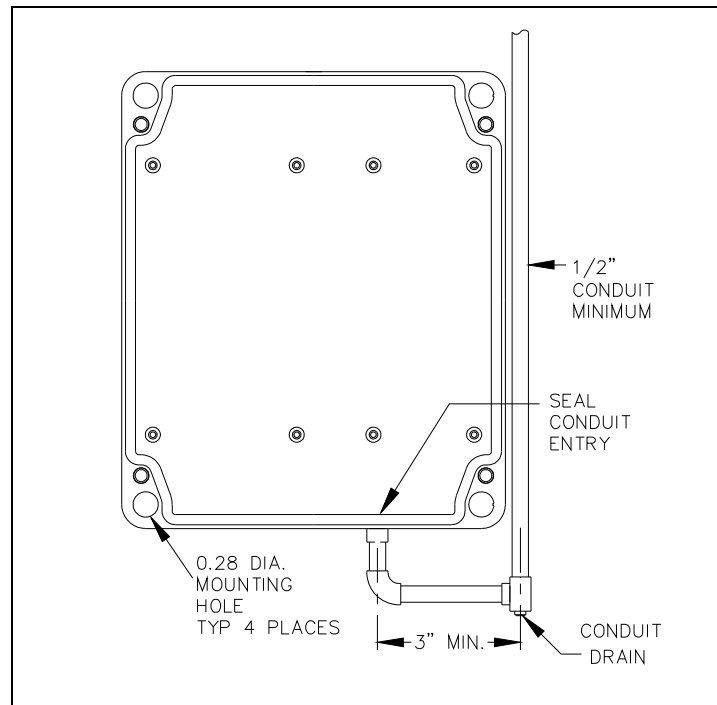
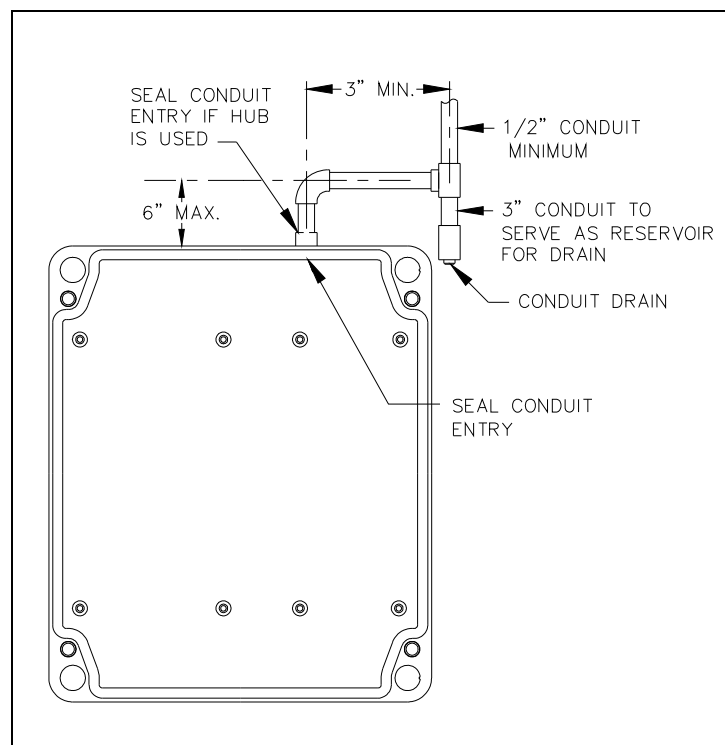

Figure 1. Bottom entry conduit installation details (RECOMMENDED for non-metallic enclosures)
Figure 2. Top entry conduit installation details (NOT RECOMMENDED)
Refer to Figure 1 and Figure 2.
2. Please refer to Figure 1 and Figure 2 if utilizing conduit for cable installation. If using the gland bushing provided with the unit, drill a 0.688-diameter hole at either drill spot on the bottom of the rear enclosure.
3. Please refer to Figure 1 and Figure 2 if utilizing conduit for cable installation. If using the gland bushing provided with the unit, drill a 0.688-diameter hole at either drill spot on the bottom of the rear enclosure.